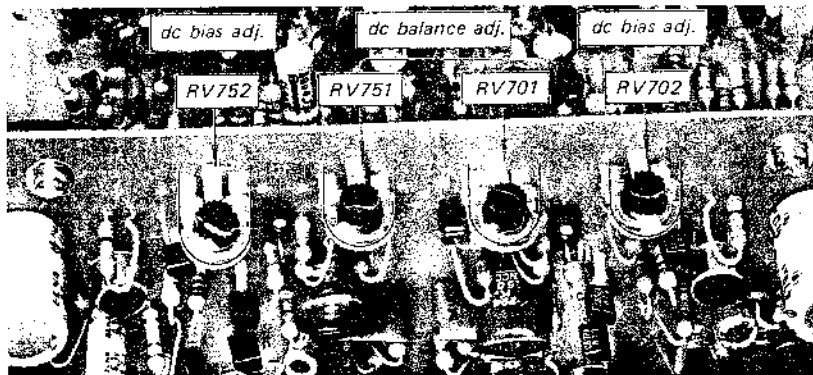

Fig. 3-19. Adjustment parts location
1. Set the adjustable resistors (see Fig. 3-19) on the power-amplifier board as follows: